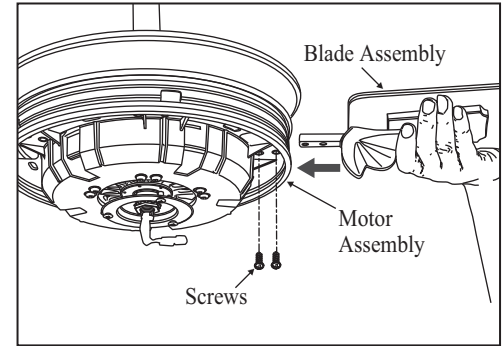

Figure 14
3. Insert the blade assembly through the slot in the motor housing. Align holes in blade arm and blade holder in motor housing and then secure with the screws provided. (Fig. 14)